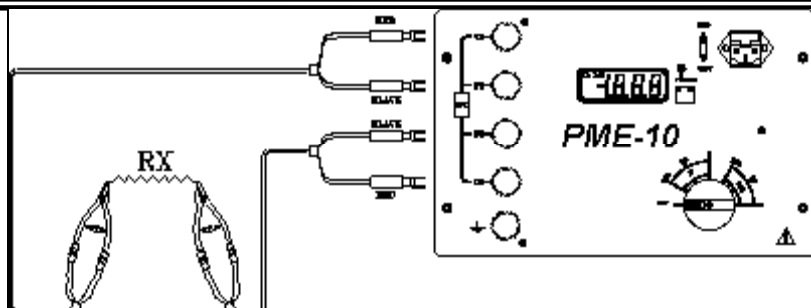

Fig. 4.1.-10 A Test connections in the PME-10 (similar to PME-100)
1.- The display shows 1 or -1, in the left side, as illustrated in Figure 4.1. That means an over-range condition.